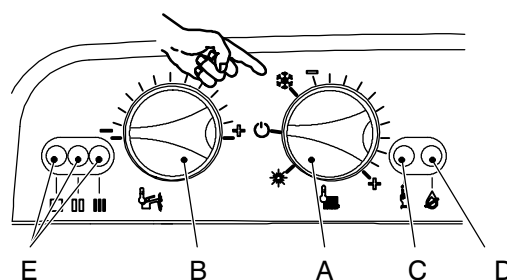

Fig. 36
- 2 Position the function selector A as in Fig. 36 and disconnect the C.h. temperature probe.
- 3 Keep pressed the reset button C for about 10 seconds (Fig. 36) until the lock-out signal lamp D blinks.